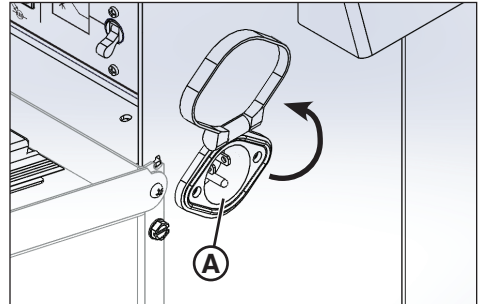

Figure 8
2. Connect a heavy-duty, exterior-use power cord (15 amp) from the power outlet on the side of the unit (A, Figure 8) to a 120-volt AC power source. See **Specifications.**